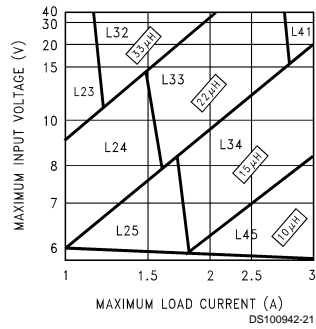
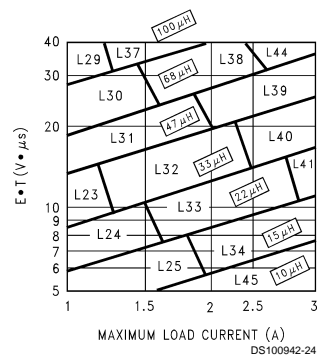

FIGURE 3. LM2670-3.3
FIGURE 6. LM2670-ADJ
**Step 3:** Determine the inductor required by using one of the four nomographs, *Figure 3* through *Figure 6*. Table 1 provides a specific manufacturer and part number for the inductor.
**Step 5:** Determine an input capacitor from Table 4 for fixed output voltage applications. Use Table 2 to find the specific capacitor type. For adjustable output circuits select a capacitor from Table 2 with a sufficient working voltage (WV) rating greater than  $V_{in\ max}$ , and an rms current rating greater than one-half the maximum load current (2 or more capacitors in parallel may be required).
**Step 3:** Use the nomograph for the 3.3V device, *Figure 3*. The intersection of the 16V horizontal line ( $V_{in\ max}$ ) and the 2.5A vertical line ( $I_{load\ max}$ ) indicates that L33, a 22 $\mu$ H inductor, is required.
**Step 3:** To use the nomograph for the adjustable device, *Figure 6*, requires a calculation of the inductor Volt•microsecond constant ( $E \cdot T$  expressed in V• $\mu$ S) from the following formula:
Using *Figure 6*, the intersection of 27V•μS horizontally and the 2A vertical line ( $I_{load \text{ max}}$ ) indicates that L38, a 68μH inductor, should be used.
**Important Note:** When using the adjustable device in low voltage applications (less than 3V output), if the nomograph, *Figure 6*, selects an inductance of 22μH or less, Table 6 does not provide an output capacitor solution. With these conditions the number of output capacitors required for stable operation becomes impractical. It is recommended to use either a 33μH or 47μH inductor and the output capacitors from Table 6.